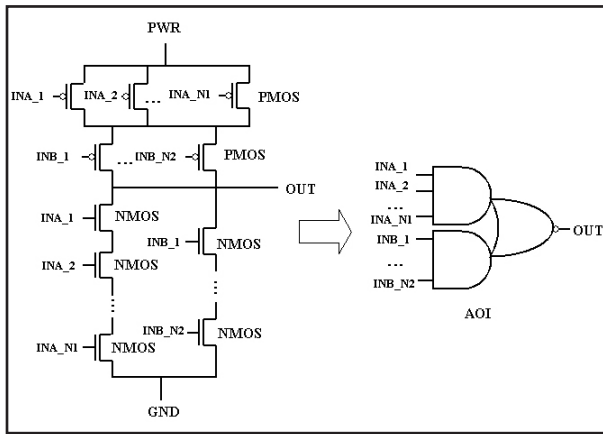

Figure 6. AOI\_N1\_N2
- **AOI\_N1\_...\_NK** — CMOS AND-OR-Invert logical configuration represented by K AND elements with N1, N2, ..., NK inputs in each, accordingly, and OR-Invert block (Figure 6)
The input terminals inside each AND configuration of AOI gate are swappable, for example in Figure 6 the inputs INA\_1, INA\_2, ..., INA\_N1 are swappable, and the inputs INB\_1, ..., INB\_N2 can be swapped. Also, the groups of PMOS transistors connected in parallel are interchangeable. So the parallel transistors connected to INB\_1, ..., INB\_N2 nets can be placed above the group of transistors connected to INA\_1, INA\_2, ..., INA\_N1.